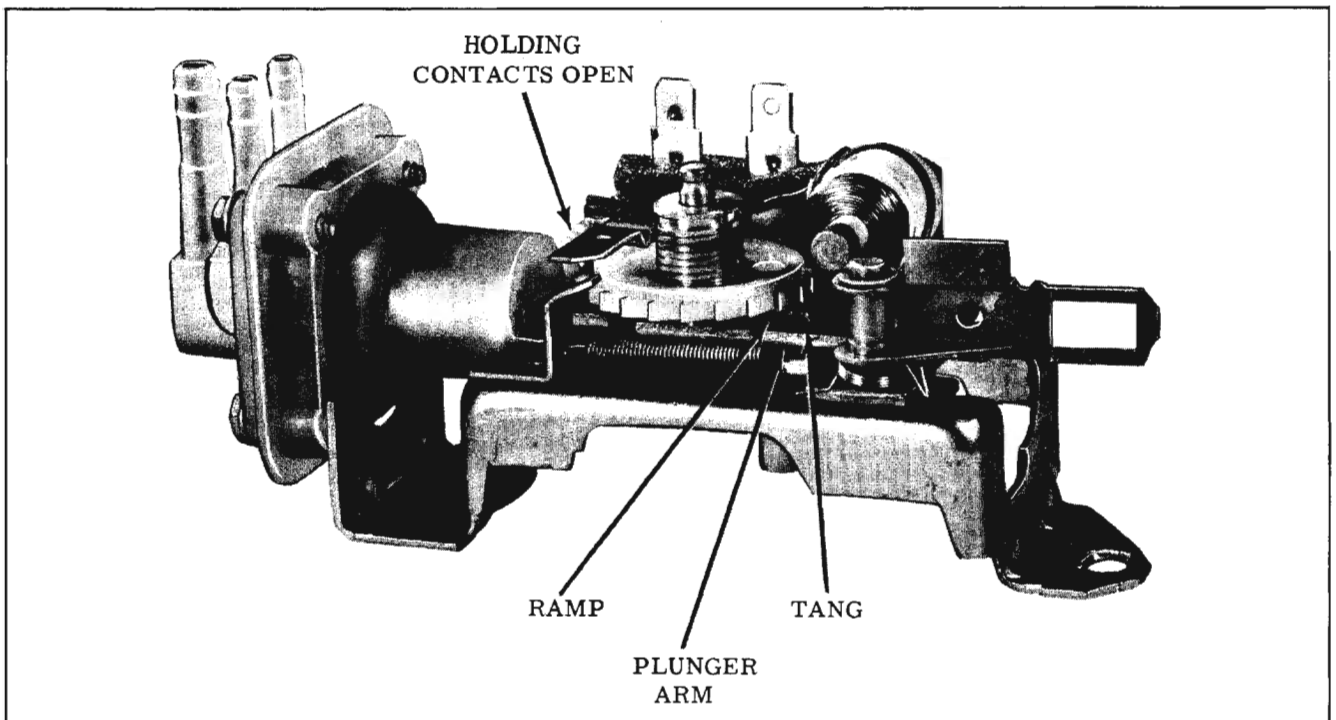
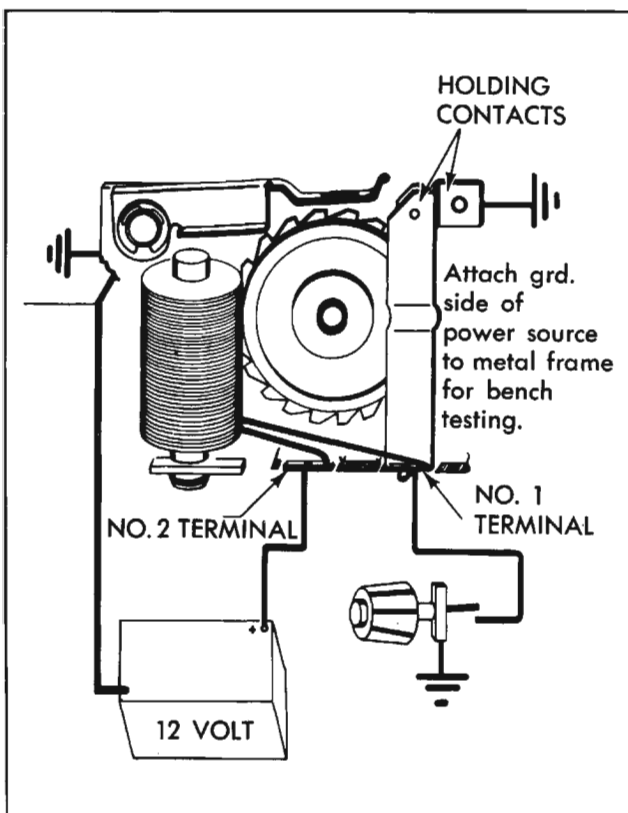

Fig. 14-180 Pump Lock-Out Position
Fig. 14-181 Pump Wiring Circuit
The pump is in the "lock-out" position when the relay holding contacts are open and a tang on the plunger arm rests against the widest part of an eccentric ramp on the bottom of the ratchet wheel. The tang holds the bellows plunger arm in a retracted position (bellows spring compressed) allowing the plunger arm pin to move back and forth in the plunger arm slot preventing pumping action. (Fig. 14-180)
Depressing the dash washer button, closes the washer pump relay circuit to ground (if the wiper was off, the wiper switch is mechanically turned on by the washer button). (Fig. 14-181).
wheel. The full "lock-out" position of the pumping mechanism is reached when the tang is up on the widest part of the ramp. (Fig. 14-180) The tang reaches the "lock-out" position at the same time the relay coil holding contacts open.
1. Remove washer pump cover and connect 12 volt power supply to washer pump as shown in Fig. 14-181. Connect jumper wire from terminal No. 1 to ground. Turn ratchet pawl to position shown in Fig. 14-181.
2. If relay and ratchet pawl perform correctly in Step 1, manually actuate the washer pump to rotate the ratchet wheel one tooth. Observe if relay holding contacts close (Fig. 14-181) and the pump plunger arm is released from its lock-out position. Figure 14-180 shows plunger arm in lock-out position.
4. If pump performs correctly in Step 3, continue to manually actuate the slide and ratchet pawl assembly until the ratchet wheel has been turned through 360° or 21 teeth. After the ratchet wheel has been rotated 21 teeth, the holding contacts should be opened by a "hump" on the wheel and the pump plunger arm should be in the "lock-out" position. (Fig. 14-180)